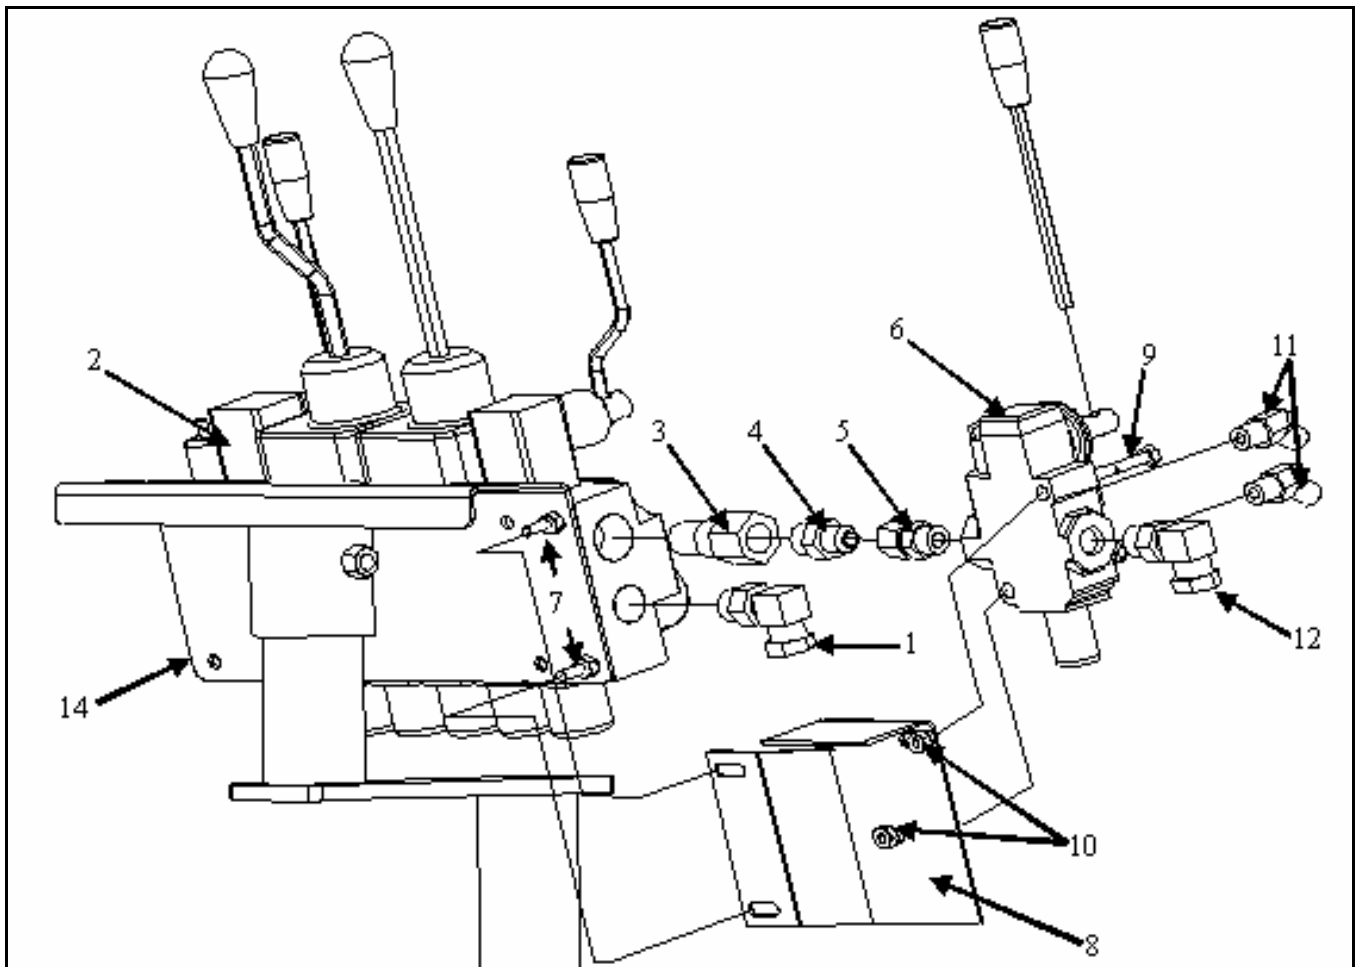
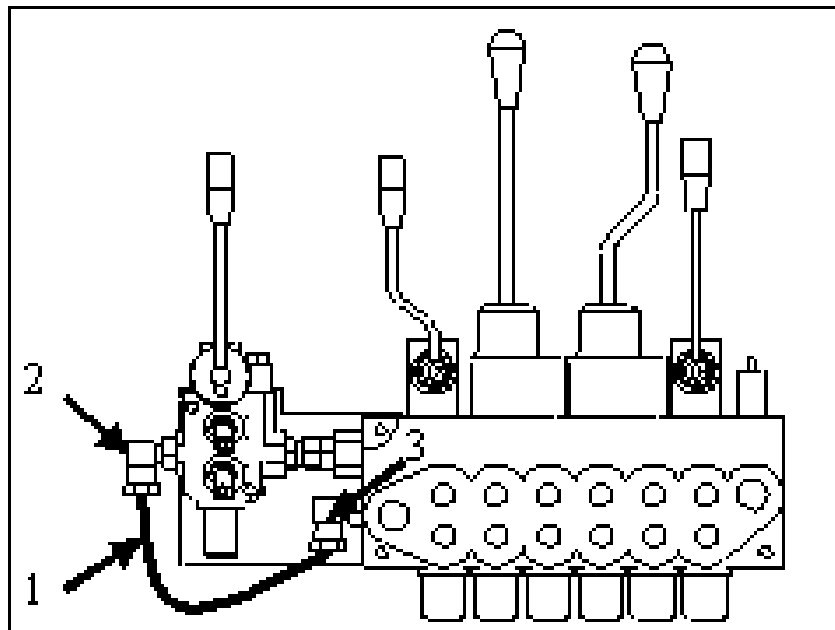

Figure 1.1 Single Spool Valve Assembly Diagram
Figure 1.2 Single Spool Valve Hose
See Figure 1.1 and Figure 1.2.
1. Remove the 2 plugs and install the 90° swivel fitting (1) into the existing valve (2).
2. Install the power beyond fitting (3) into the valve (2), then thread the ORB to JIC fitting (4) into the power beyond fitting (3). Thread the swivel fitting (5) to the single spool valve (6).
3. Thread the single spool valve (6) with the swivel fitting (5) to the ORB to JIC fitting (4) so that the valve handle on the single spool valve (6) is parallel with the handles on the existing control valve (2).
4. Remove the two 5/16" nuts (7) and place the single spool valve mount (8) on the 5/6 spool valve mount (14) and replace the nuts (7). Do not tighten nuts. Insert two 5/16" x 2" bolts (9) through the single spool valve and loosely attach the nuts (10). Slide the mount (8) until its edge is flush with the single spool valve (6) and tighten the nuts (7, 10).
5. Thread the two 45° elbow fittings (11) and the 90° fitting (12) into the single spool valve (6).
6. Install the 1/2" x 16" hose (1) to the two 90° fittings (2, 3) (See Figure 1.2).